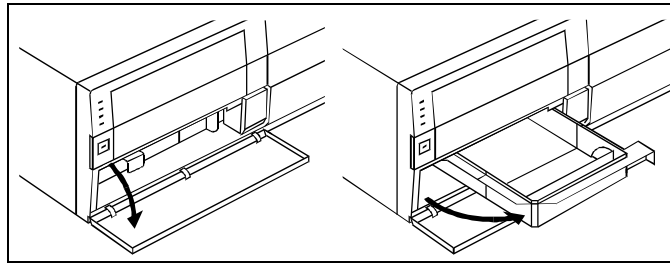

Figure 6-29. Opening the Paper Cassette
1. Open the paper cassette door and swing out the paper cassette (Figure 6-29).